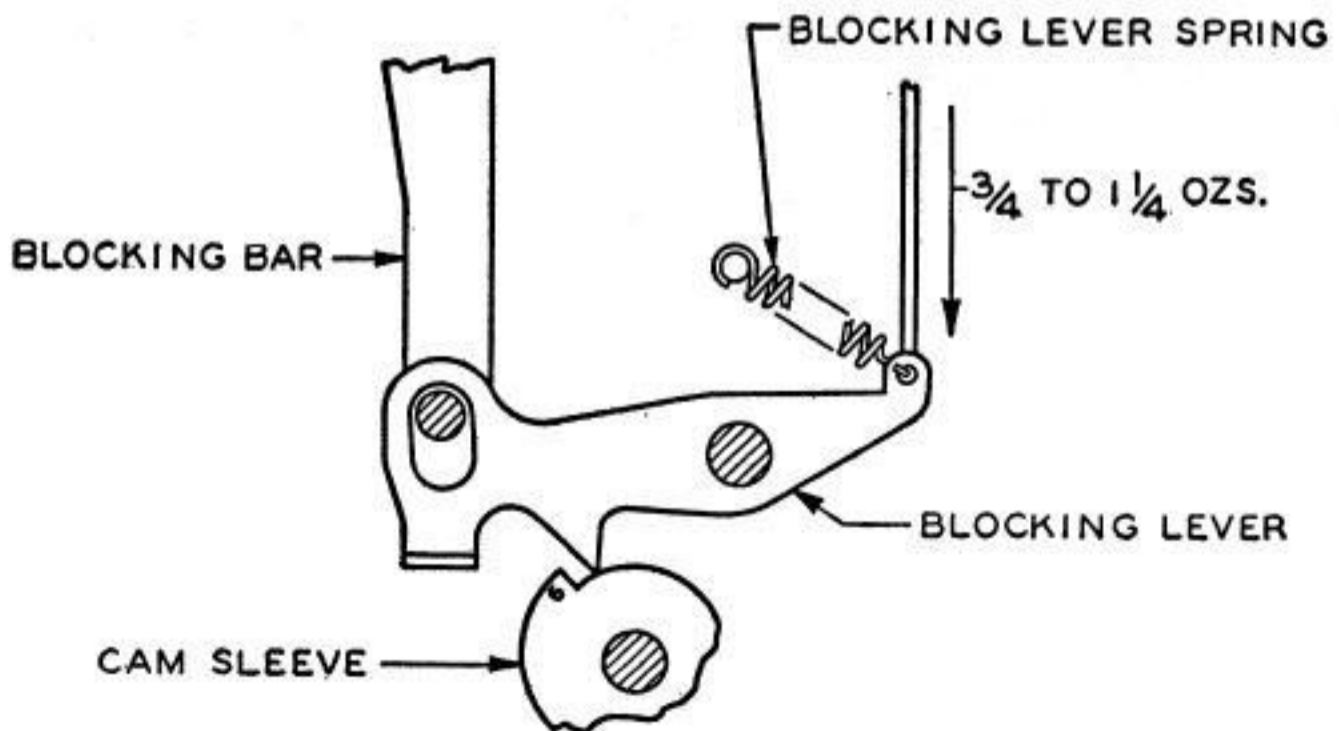

Fig 36
4.07 **Blocking-Bar Operating-Lever Spring:** It should require Min $\frac{3}{4}$ oz, Max $1\frac{1}{4}$ oz, to just start the lever moving. **Fig 36**